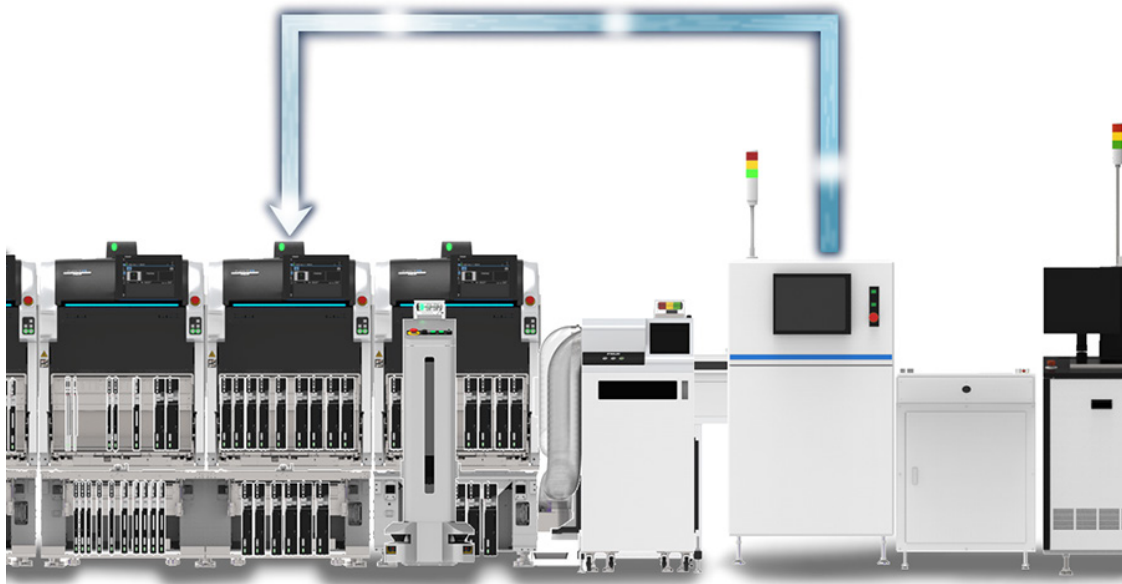

Figure 6. Inspection machines automatically communicate changes upstream.
**Production lines.** By scanning either the kanban ID or panel ID code, production programs can be changed from the current production to the next for all machines that configure the line. Upon receiving inspection results from SPI and AOI, the necessary actions are performed automatically inline with any trends that indicate status changes (Figure 6).